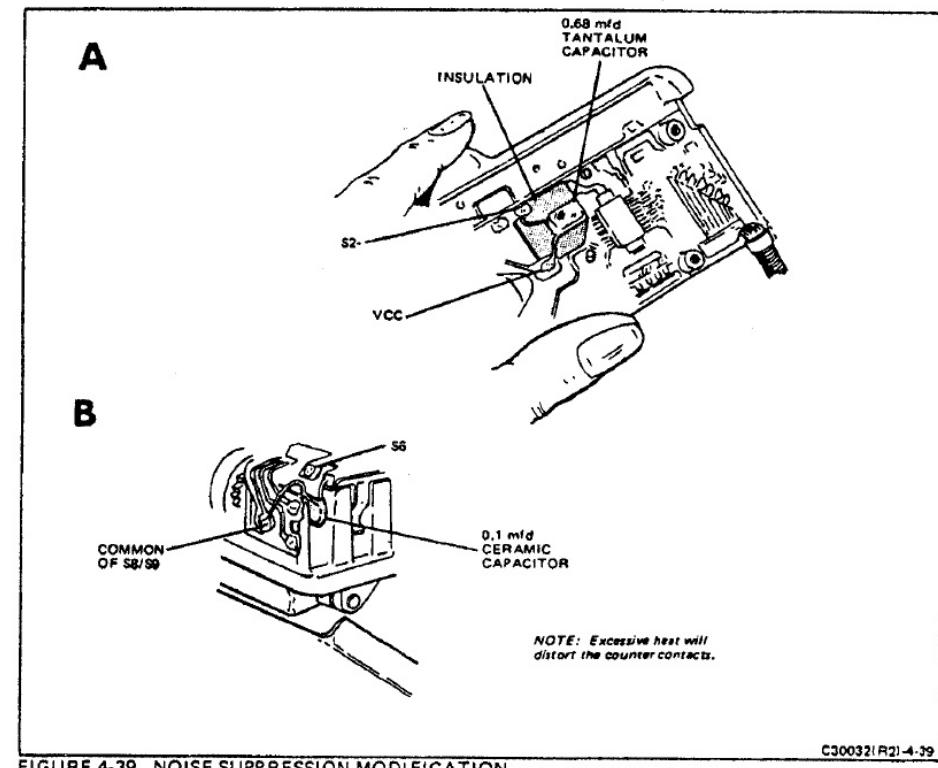

FIGURE 4-39 NOISE SUPPRESSION MODIFICATION
Some shutters have exhibited a mid-cycle shutdown which has been traced to motor noise. T.I. shutters without motor capacitors are most susceptible to this problem. The installation of a capacitor between the VCC terminal and ground on the shutter (Figure 4-39 "A") suppresses noise and reduces the problem. If after installing the capacitor the mid-cycle shutdown persists, install a second capacitor between S6 and the counter (Figure 4-39 "B"). Any suitable commercial tantalum 0.68 mfd capacitor may be used on the substrate and any suitable subminiature commercial ceramic 0.1 mfd may be used on the counter. These parts may be ordered from the Waltham Parts Department under the following numbers.
- (a) To prevent shorting, place a small piece of insulating tape or .001-mylar on the substrate, in the area indicated by the black shading in Figure 4-39 "A".
- (f) If the mid-cycle shutdown still persists, add a second ceramic capacitor between S6 and the common of S8/S9 on the counter (Figure 4-39 "B").